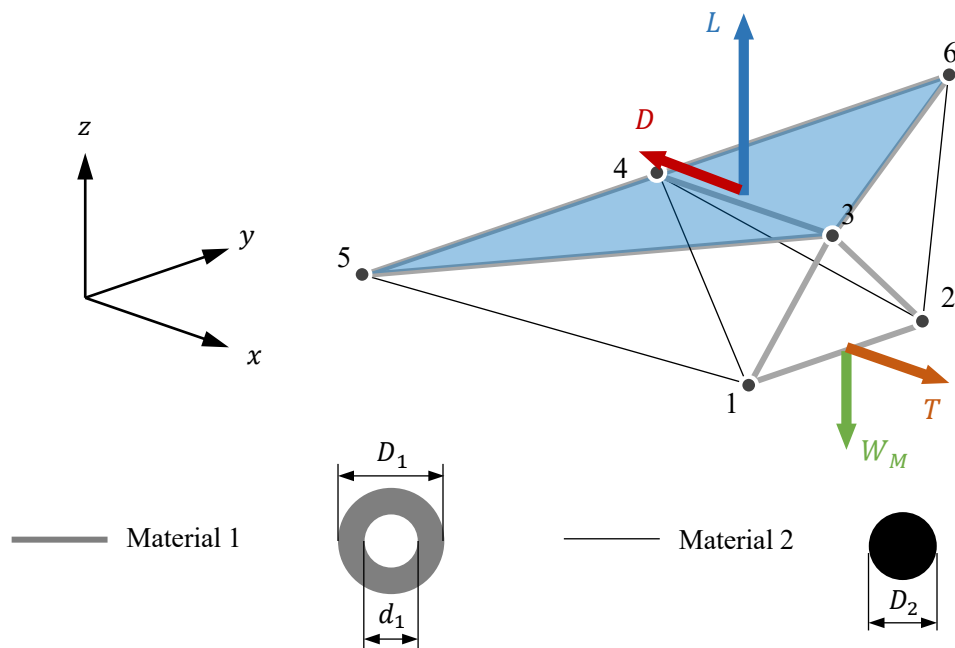

Figure 1. Hang glider structure and external loads (the weight of the bars is not depicted but must be taken into account).
The hang glider depicted in Figure 1 descends at constant velocity. Its structure is composed of bars of two different materials, with their properties given in Table 1. Consider the following loading conditions:
- B) Compute the stress state of the structure given in Figure 1 and discuss the following questions: